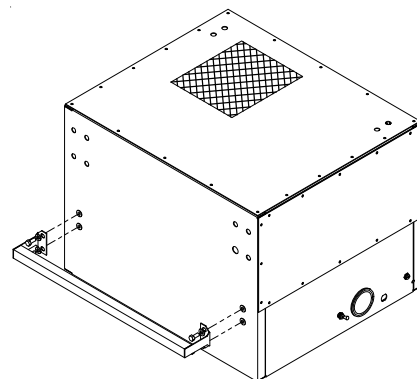

Fig. 4
5. Mount the handle to the side of the unit with four 5/16-18 hex bolts and washers (supplied; Fig. 4).